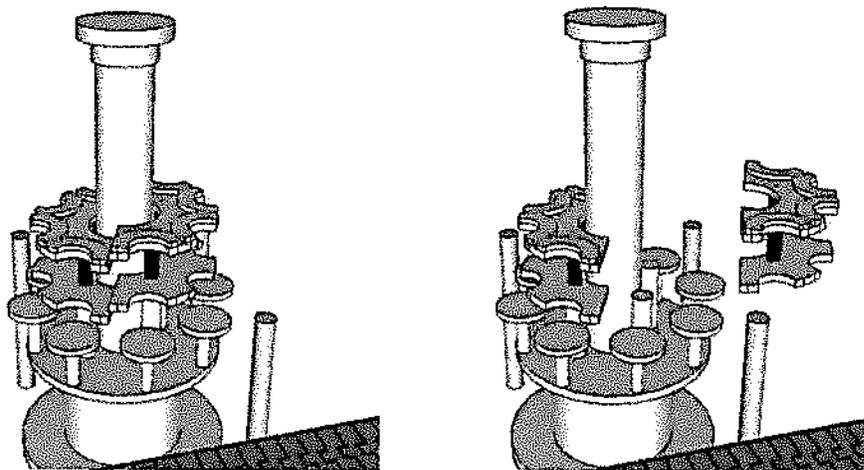

fig.27
- Loosen the first half-starwheel and lift it upwards slightly to remove it (fig.27).